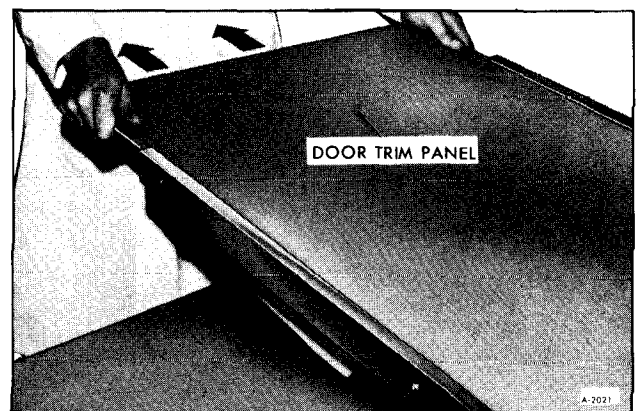

Figure 18—Removing Trim Panel
4. Trim panel can now be removed by sliding it out the bottom (figure 18).